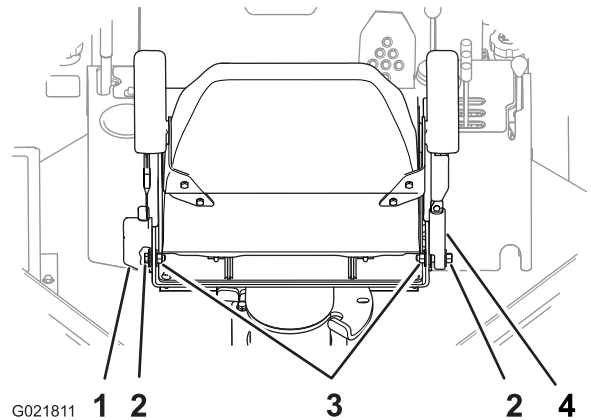

Figure 98
3. Check that the bolts and nuts that attach the seat-belt retractor and buckle to the seat are torqued to 7.8 to 9.6 N-m (69 to 85 in-lb); refer to Figure 98.